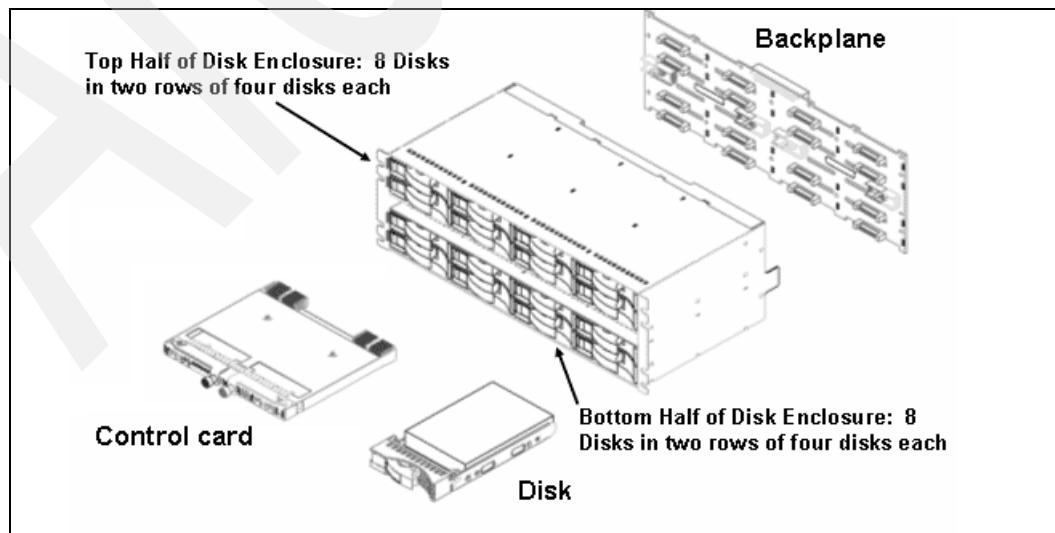

Figure 21-1 DS8700 Storage Enclosure
The disk drives are installed in Storage Enclosures (SE). A storage enclosure interconnects the DDMs to the Fibre Channel switch cards that connect to the device adapters. Each storage enclosure contains a redundant pair of Fibre Channel switch cards. Figure 21-1 shows a sketch of a Storage Enclosure.